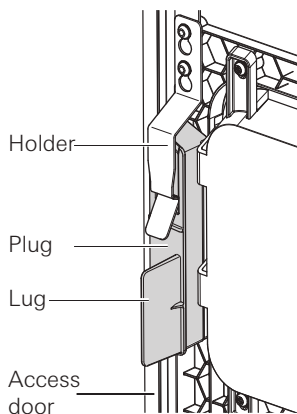

Fig. 3
4. Clamp the plug beneath the holder, as shown in Figure 3.